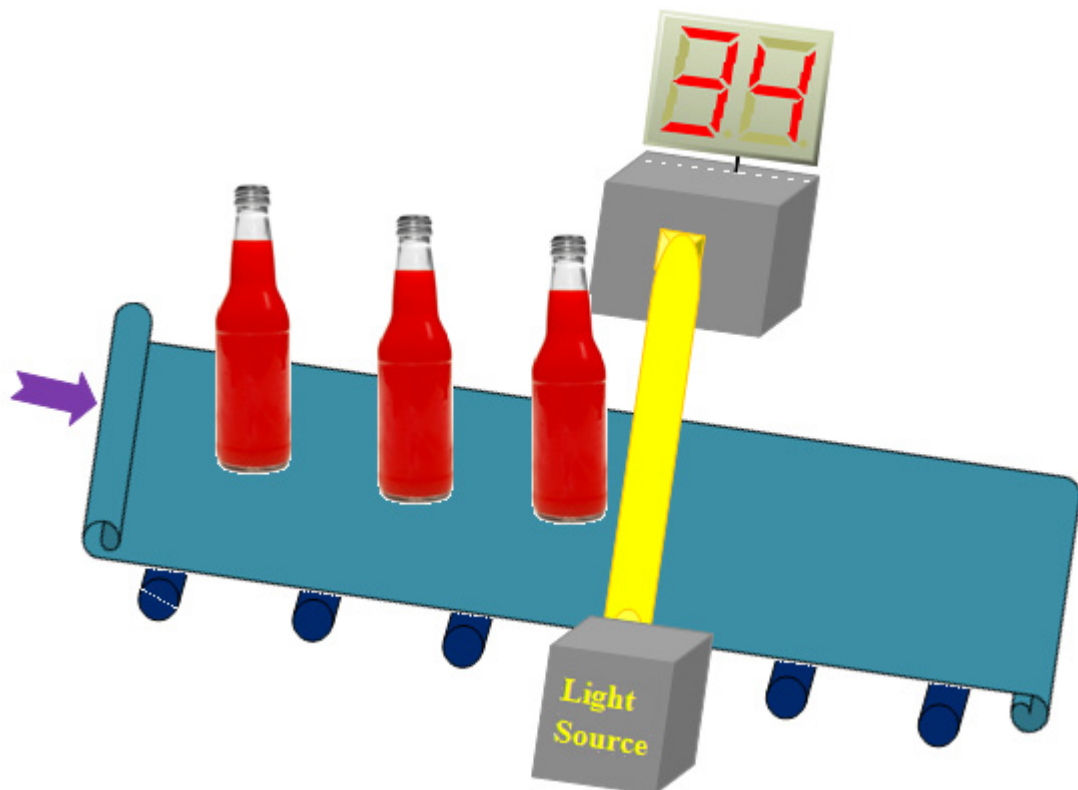

Figure 5-9: A photodiode circuit used in a system that counts objects as they pass on a conveyor belt
- A simple photodiode application is depicted in figure 5-9. Here a beam of light continuously passes across a conveyor belt and into a transparent window behind which is a photodiode circuit. When the light beam is interrupted by an object passing by a conveyor belt, the sudden reduction current activates a control circuit that advances a counter by one. The total count of objects that have passed that point is displayed by the counter. This basic concept can be extended and used for production control, shipping, and monitoring of activity on production line.